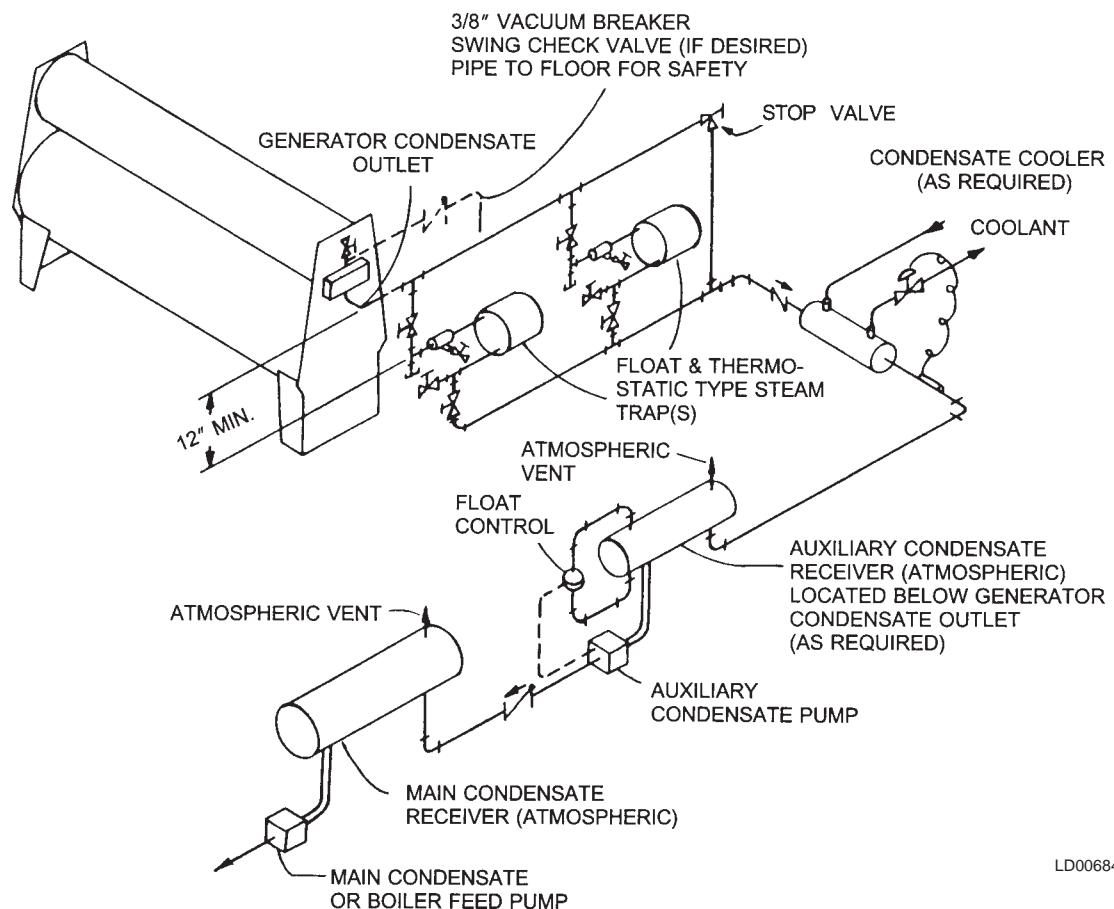

FIG. 5 – SYSTEM 1: ATMOSPHERIC CONDENSATE RETURN SYSTEM
To avoid fluctuation in condensate return or water hammer in the generator tubes, a vacuum breaker swing check valve can be added as shown in Fig. 5 on page 24. A 3/8-inch size is sufficient to prevent condensate build-up. For safety, a pipe should be installed from the check valve to a location close to the floor or other safe place. The use of the check valve to permit air entrance into the generator tubes has the disadvantage that this air must later be purged through the thermostatic element of the float trap and tends to entrain air in the condensate return.
Three basic types of return systems are possible: (1) a completely atmospheric system; (2) a system that allows the chiller and steam traps to function at atmospheric pressure, but the remainder of the condensate system/boiler feed to operate in a vacuum; (3) and a system that operates entirely in a vacuum. Reference Figs. 5, 6, and 7 for typical diagrams.